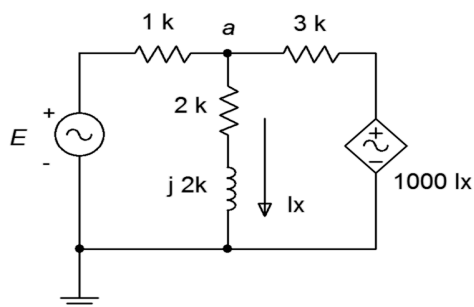

Figure 5.45
80. Determine v_{ab} in the circuit of Figure 5.45. $E = 10\angle 0^\circ$